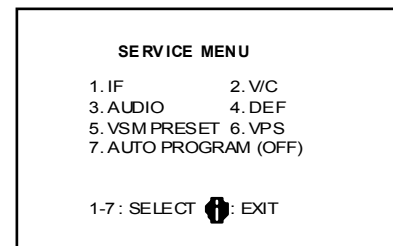
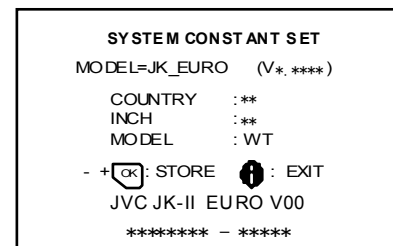

Fig.1
Fig.2
(1) Power off	Switch the power off and unplug the power cord from the outlet.
(2) Replace ICs.	Be sure to use memory ICs written with the initial data values.
(3) Power on	Plug the power cord into the outlet and switch the power on.
(4) Check and set SYSTEM CONSTANT SET :	<ul style="list-style-type: none"> • It must not adjust without signal. 1) Press the INFORMATION key and the MUTING key of the REMOTE CONTROL UNIT simultaneously. 2) The SERVICE MENU screen of Fig. 1 will be displayed. 3) While the SERVICE MENU is displayed, press the INFORMATION key and MUTING key simultaneously, and the SYSTEM CONSTANT SET screen of Fig. 2 will be displayed. 4) Check the setting values of the SYSTEM CONSTANT SET of Table 1. If the value is different, select the setting item with the FUNCTION UP/DOWN key, and set the correct value with the FUNCTION +/- key. 5) Press the MENU key to memorize the setting value. 6) Press the INFORMATION key twice, and return to the normal screen.
(5) Setting of receive channels	Set the receive channel. For setting, refer to the OPERATING INSTRUCTIONS.
(6) User settings	Check the user setting values of Table 2, and if setting value is different, set the correct value. For setting, refer to the OPERATING INSTRUCTIONS.
(7) Setting of SERVICE MENU	Verify the setting items of the SERVICE MENU of Table 3, and reset where necessary. For setting, refer to the SERVICE ADJUSTMENTS.